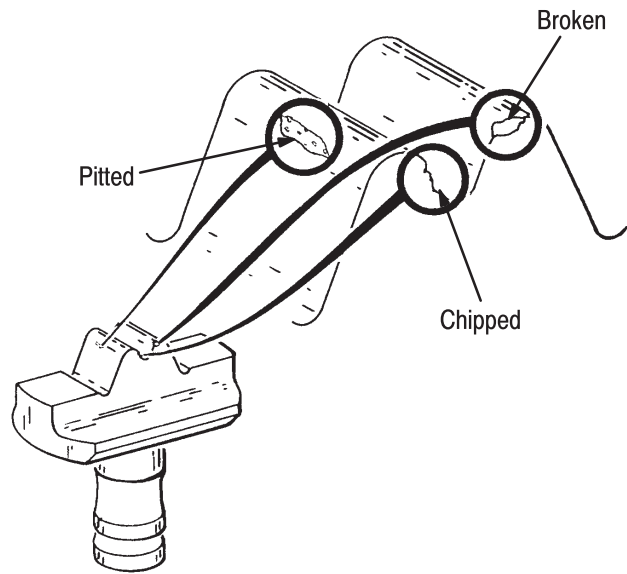

Figure 6
A. Visual Inspection (Figure 6)